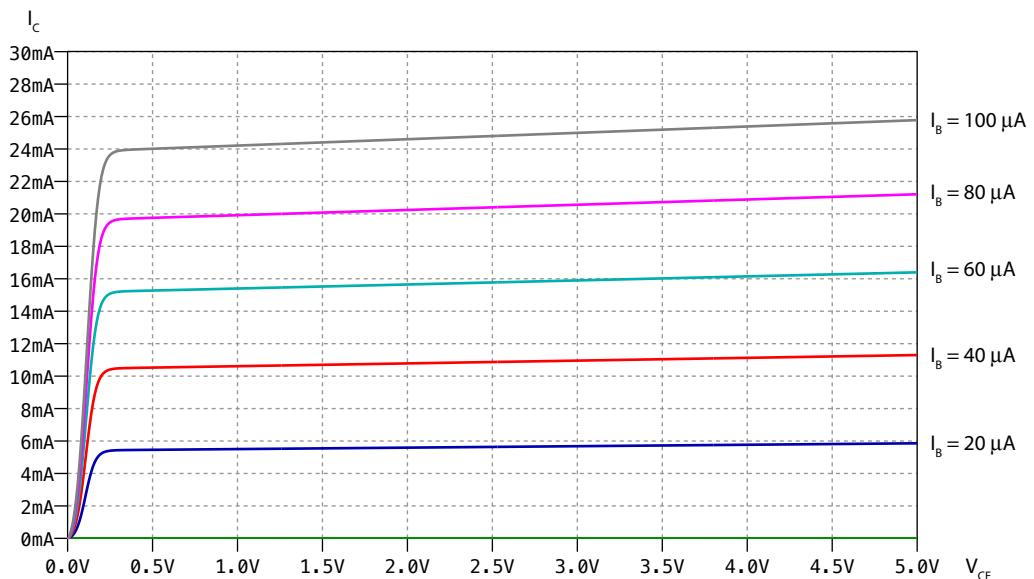
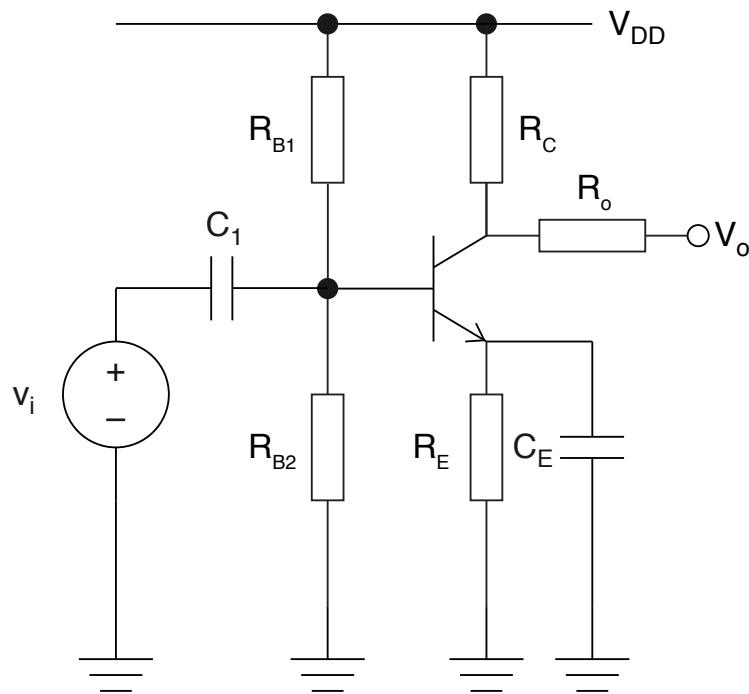
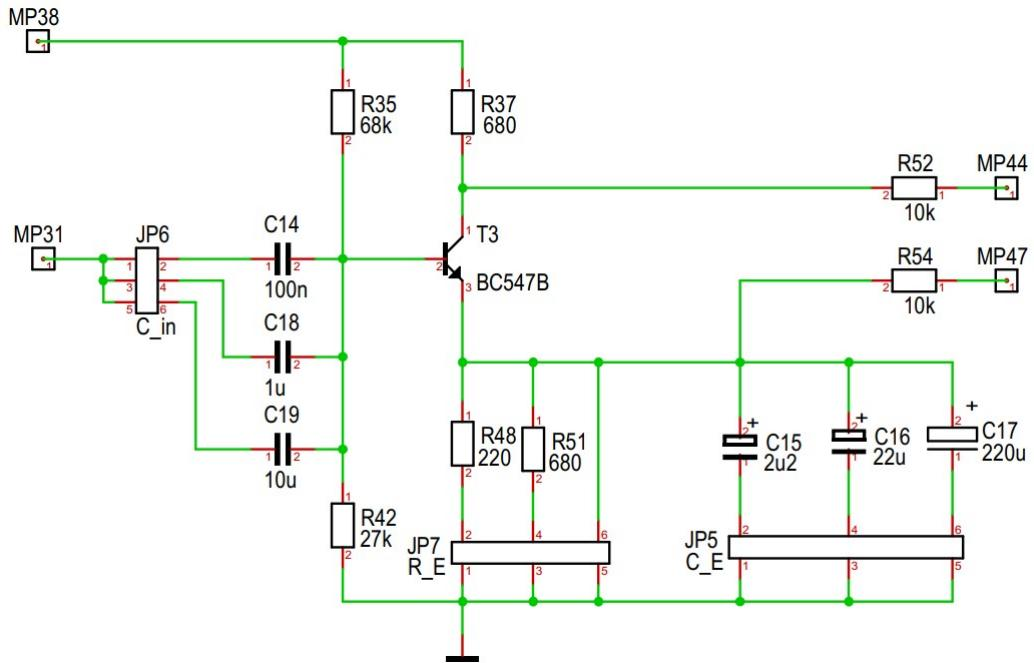

Figure 2.1.1
Figure 2.3.1
Figure 2.3.2: Schematic of the *BJT amplifier* circuit
Consider the CE amplifier in Figure 2.3.1 below, which uses the bipolar transistor whose output characteristics are shown in Figure 2.1.1. Take  $R_o = 0$ ,  $R_C = 680\Omega$  and  $V_{DD} = 10\text{ V}$ . If your bias network generates  $I_B = 40\mu\text{A}$ , calculate the small-signal voltage gain  $A_V = v_o/v_i$ .
Consider the common-emitter amplifier shown in Figure 2.3.1. We will model the amplifier twice, once in time domain and once in the frequency domain, and compare the results.
- Set up a SPICE implementation of the circuit in Figure 2.3.1, using the following component values found on the electronics board:  $R_{35}$ ,  $R_{42}$ ,  $R_{37}$ ,  $R_{52}$ ,  $C_{14}$ , and  $C_{16}$  (see Figure 2.3.2 below). The transistor model is already included in LTSpice.
In the “BIPOLAR” section of the electronics board, we will use the *BJT amplifier* circuit, shown in Figure 2.3.2.